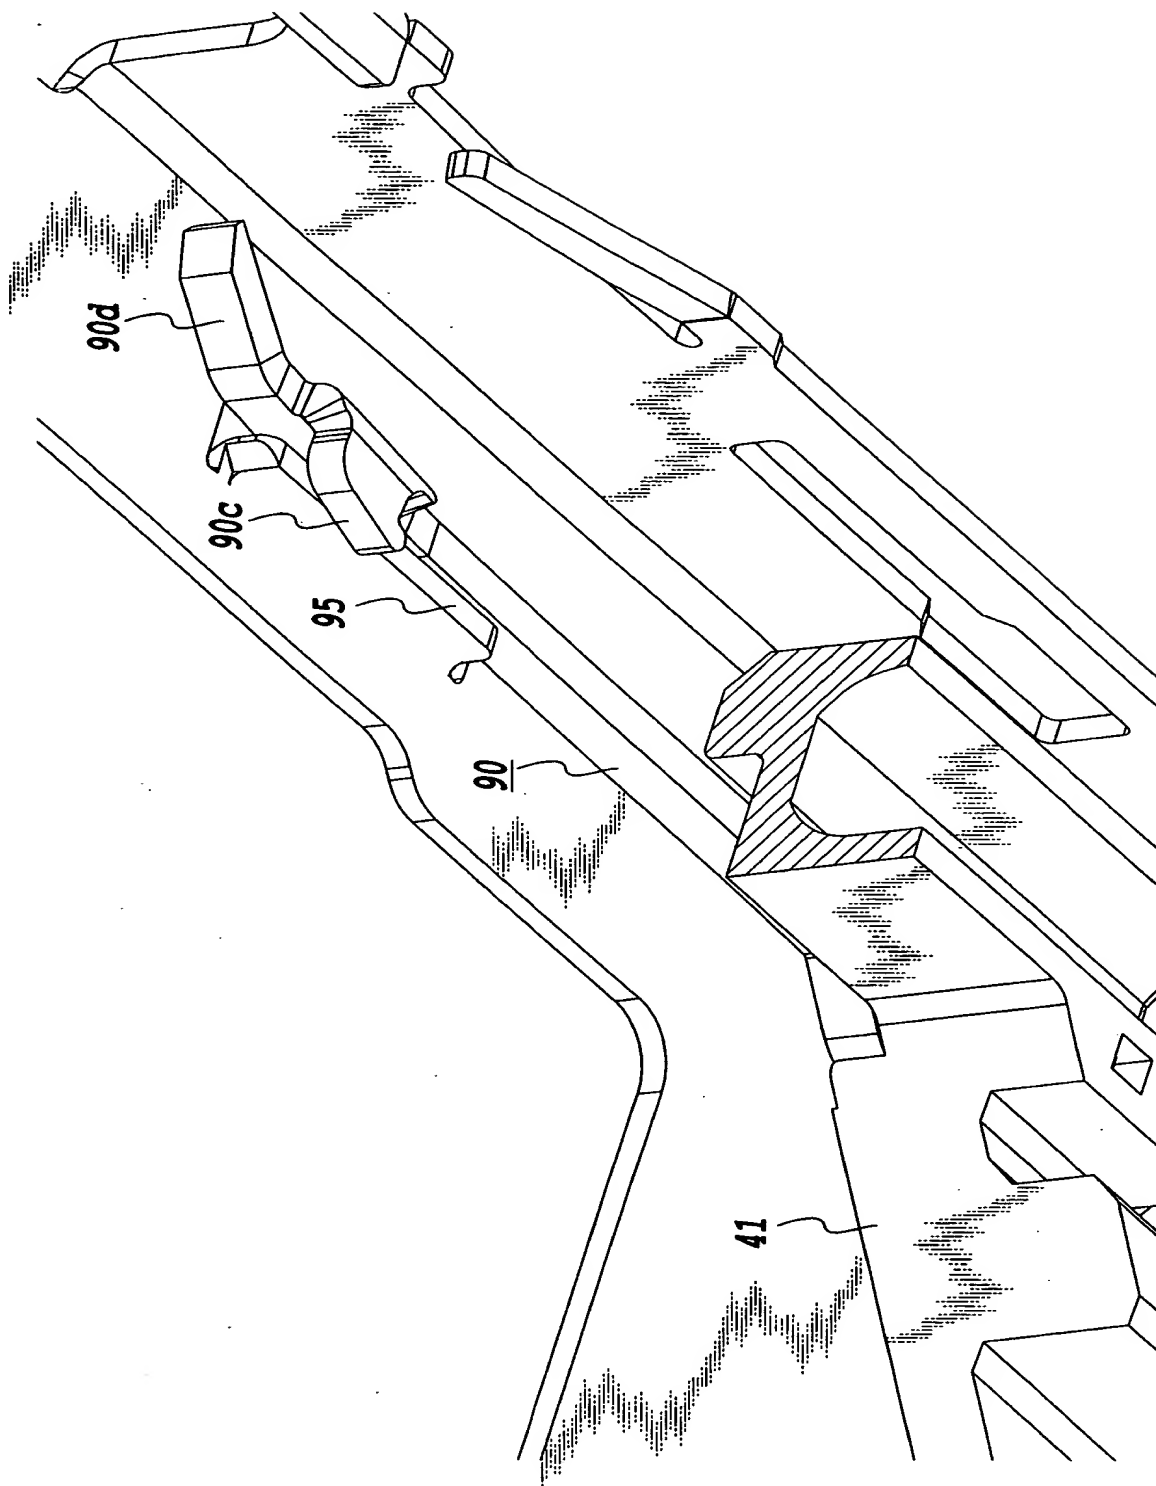

FIG. 29
FIG. 29 is a perspective view of a mechanical assembly. A long, thin, curved member (90) is shown. A series of rectangular blocks (90c, 90d) are arranged along its length. A small, curved component (95) is attached to the member. A large, rectangular block (41) is positioned below the member. The assembly is shown in a perspective view, with dashed lines indicating hidden internal features.